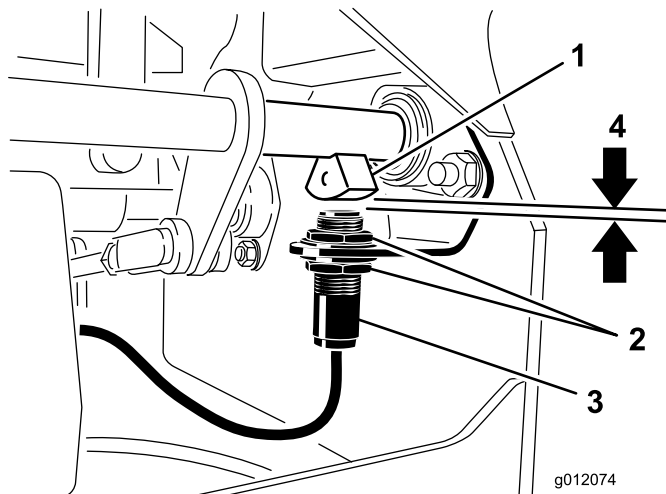

Figure 57
4. Move the switch up or down on the bracket until the distance between the brake shaft sensor and the switch plunger is 5/32 inch (3.9 mm) (Figure 57).